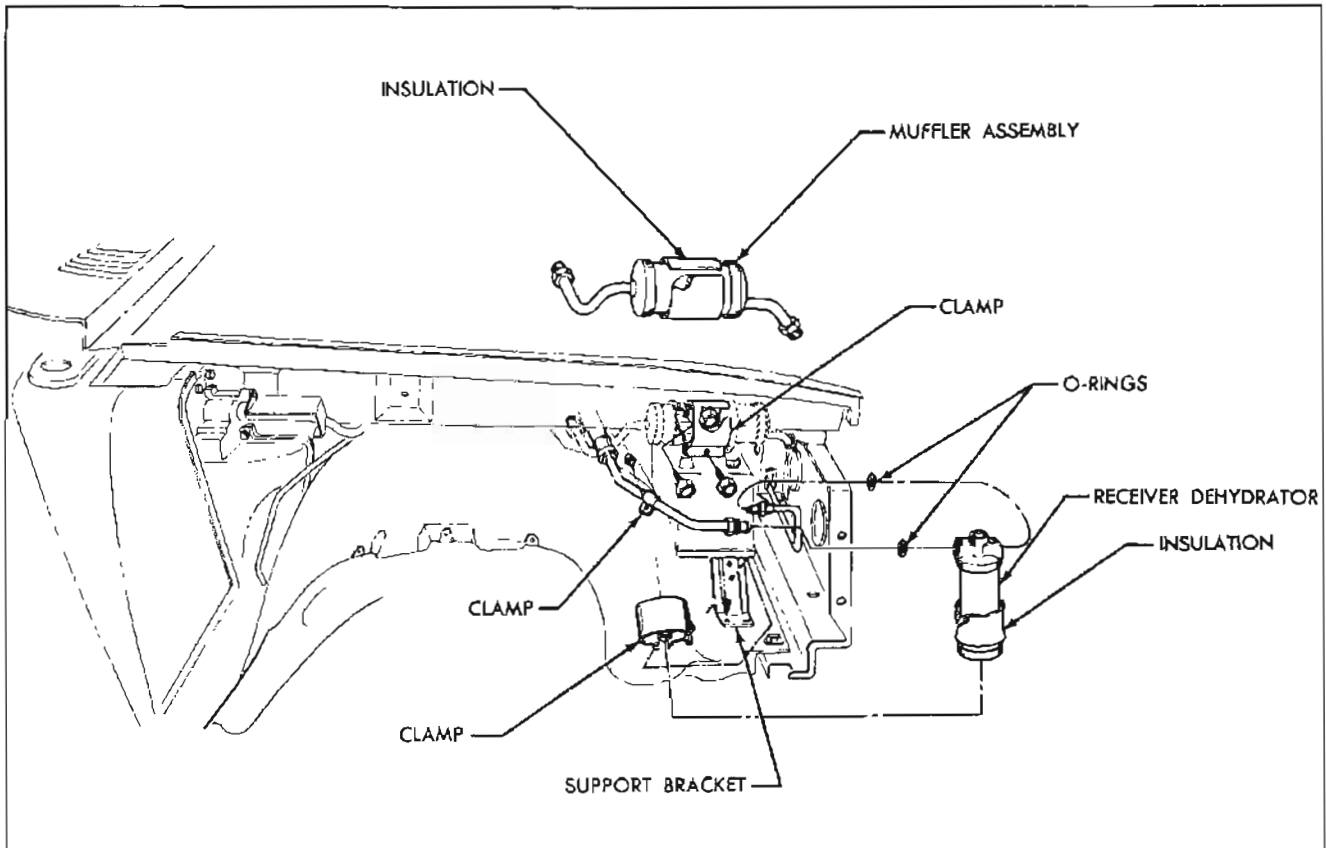

Figure 11-107—Muffler and Receiver - Dehydrator Installation
3. Disconnect refrigerant lines connected to muffler (see Figure 11-107) and tape closed both open ends of refrigerant lines and both ends of muffler.
3. Disconnect refrigerant lines to both ends of receiver-dehydrator (see Figure 11-107) and tape closed both open ends of refrigerant lines, and also the open ends of the inlet and outlet pipes of the receiver-dehydrator.